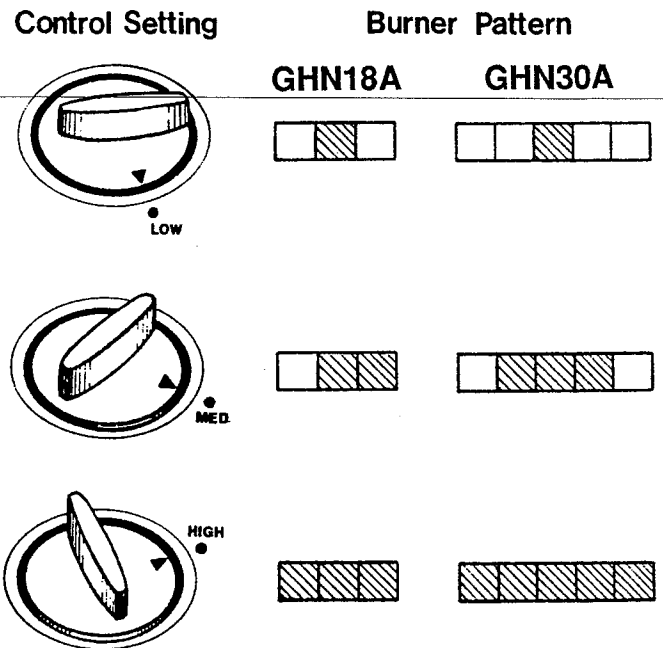

FIG. 11
5. To select the heating level desired, partially press down the control knob and rotate counterclockwise. Release the downward pressure on the knob while continuing to turn until the knob locks at the desired setting position. Do Not operate between the locked positions. (Figure 11)